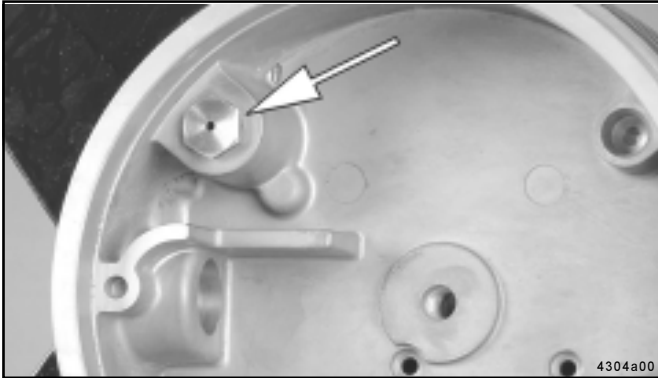

Fig. 16-Pressure relief valve (cartridge) in housing
<p>• Cause:</p> <ul style="list-style-type: none"> • Bearings, lines or divider block clogged. • Mounting position of divider block: bottom <ul style="list-style-type: none"> – On divider blocks SSV 8, SSV 12 or SSV 18, the outlet borehole 1 and/ or 2 is closed. • Mounting position of divider block: back <ul style="list-style-type: none"> – On divider blocks SSV 6, SSV 12 or SSV 18, the outlet borehole 1 is closed and outlet 2 is connected. <p>The fault can be identified as follows: The indicator pin on the divider block piston doesn't move.</p>	<p>• Remedy:</p> <ul style="list-style-type: none"> • Determine the cause of the blockage as described in the following example and eliminate it: <ul style="list-style-type: none"> * Let the pump run. * Disconnect all feed lines (D) (Fig. 19) of the divider block one after the other. If grease or oil shows e.g. at outlet 3 under pressure, the blockage is located in the line of outlet 3 or in the connected bearing point. * Pump through the blocked line or bearing point using a hand pump. <p>Note: To check the individual outlets, leave all outlets disconnected for a while, since only one piston stroke is executed with each motor revolution. However, several strokes are required for a full cycle of all divider blocks.</p> * Check pressure relief valve (Fig. 16). Replace it, if necessary.